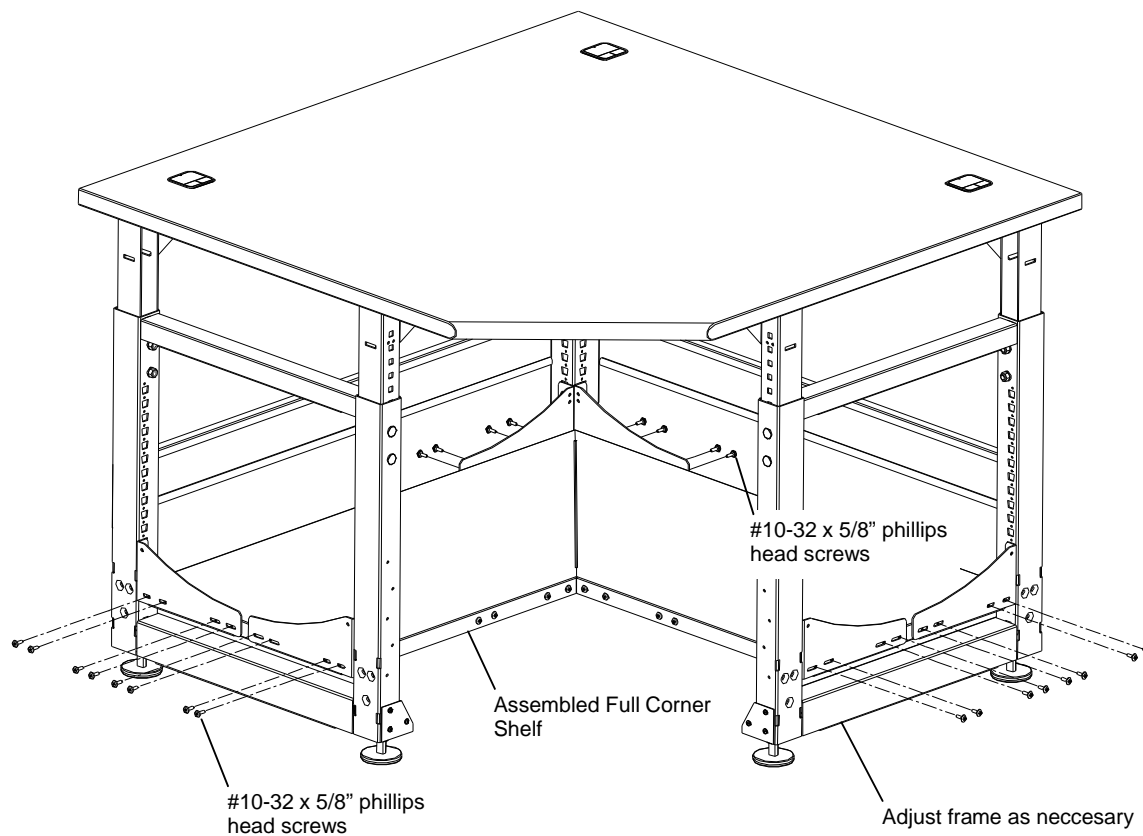

Figure 8
10. Install eight #10-32 x 5/8" long phillips head screws with plastic washers (provided) thru the Rear Brackets and into the Corner Shelf. See figure 8. **Do not** tighten at this time.